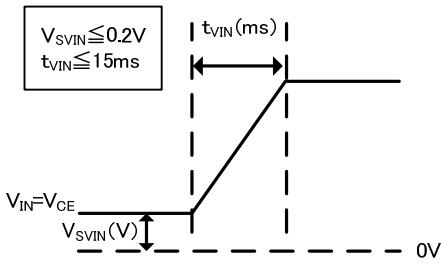

Figure 1. (Recommended for input wave form for  $V_{IN}=V_{CE}$ )
4. As for power-on, when CE pin is used with connecting to  $V_{IN}$  pin,  $V_{IN}-V_{CE}$  voltage should begin rising from below 2.0V. Rise time should be less than 15ms. (Please refer to Figure 1.)